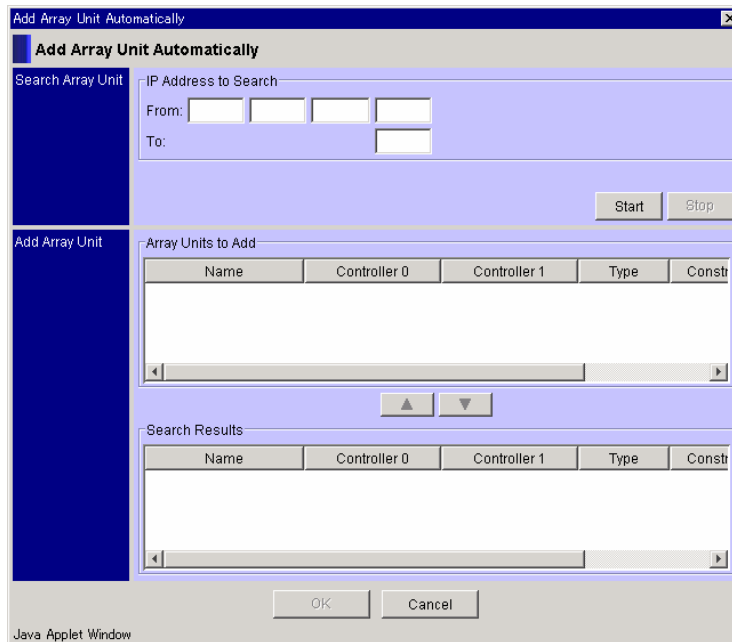

Figure 4.7 Add Array Unit Automatically
1. On the **Edit** menu of Storage Navigator Modular Web, select **Add Automatically**. You can also complete this operation from the context menu of the list view box. The **Add Array Unit Automatically** window displays. See Figure 4.7.